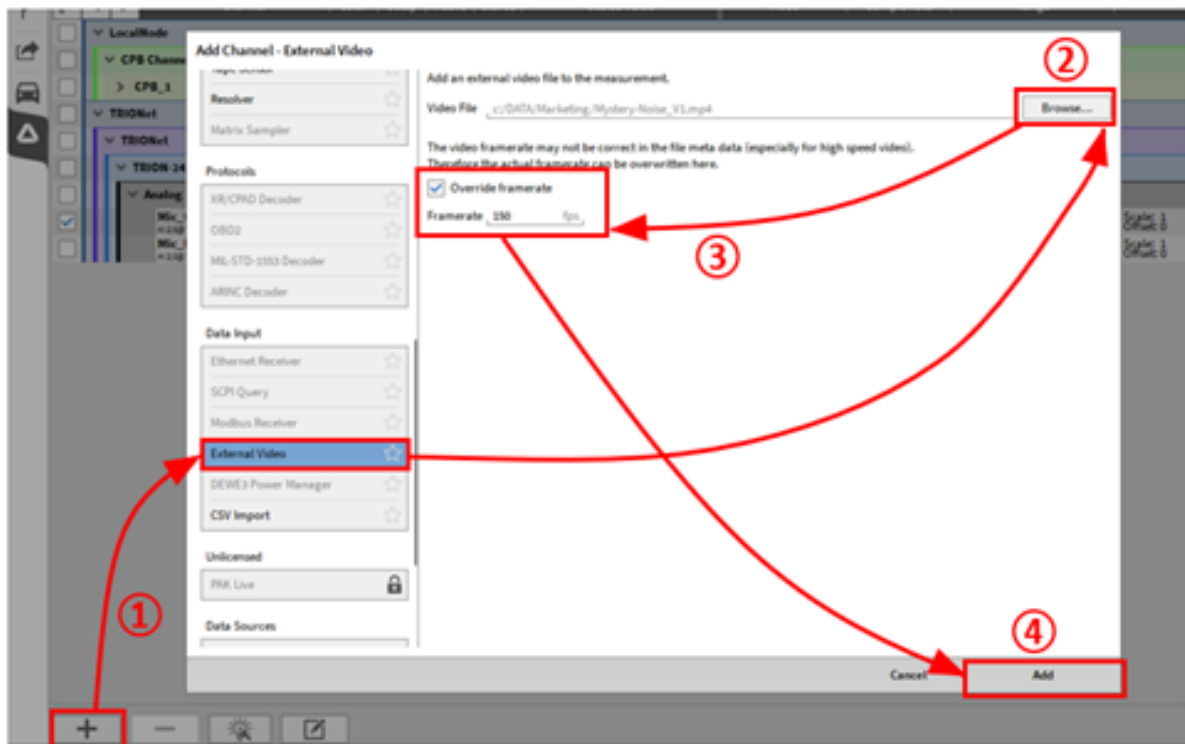

Fig. 7.168: Procedure to load an external video
- Go to the Channel List, press the + Button and select *External Video* (see ① in Fig. 7.168)
- Click on *Browse...* to select the video file (see ② in Fig. 7.168)
- Enter the native recording frame rate of the video (see ③ in Fig. 7.168)
- Press *Add* to create a new video channel (see ④ in Fig. 7.168)